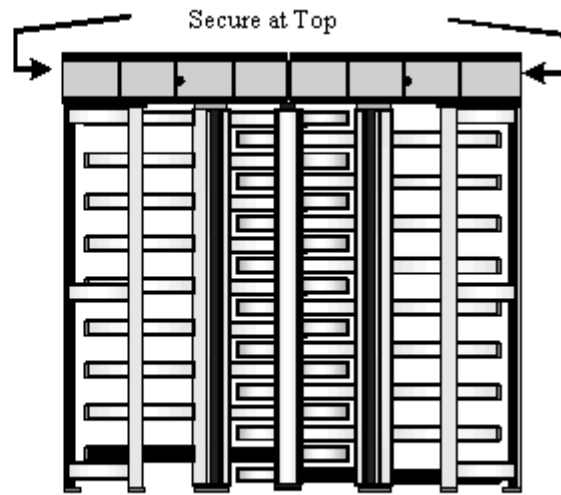

**Figure 53b Anchor the Center Column**
- SQUARE and PLUMB the Center Column (Figure 53b below).
- Anchor the Center Column (Figure 53b below).